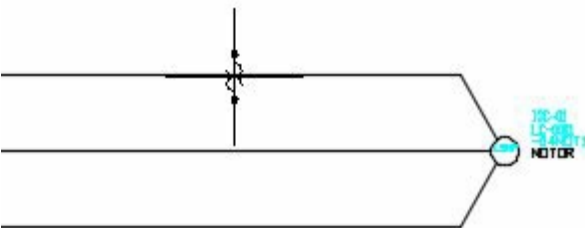
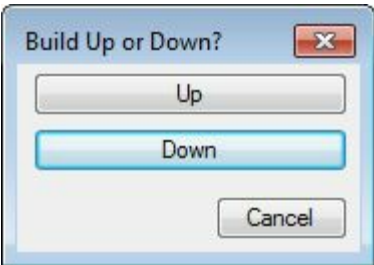

Figure-17. Placement of overload circuit breaker
Figure-18. Build Up or Down dialog box
- Click on the top wire of the wire bus; refer to Figure-17. The **Build Up or Down?** dialog box will be displayed; refer to Figure-18.